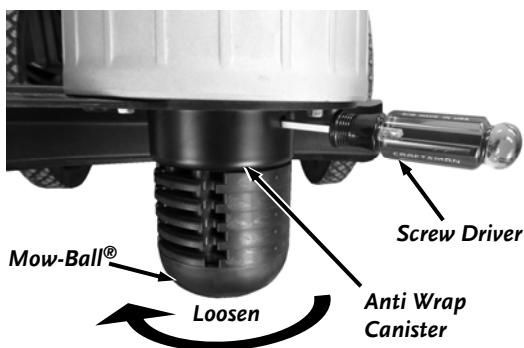

Figure 17
1. Align the hole in the Anti Wrap Canister with the hole in the internal housing at the location shown (**Figure 17**).
5. Insert the Screwdriver as shown in **Figure 17** on page 14 and tighten the assembly securely by turning the Mow-Ball® counterclockwise when looking down on the top of the Frame.